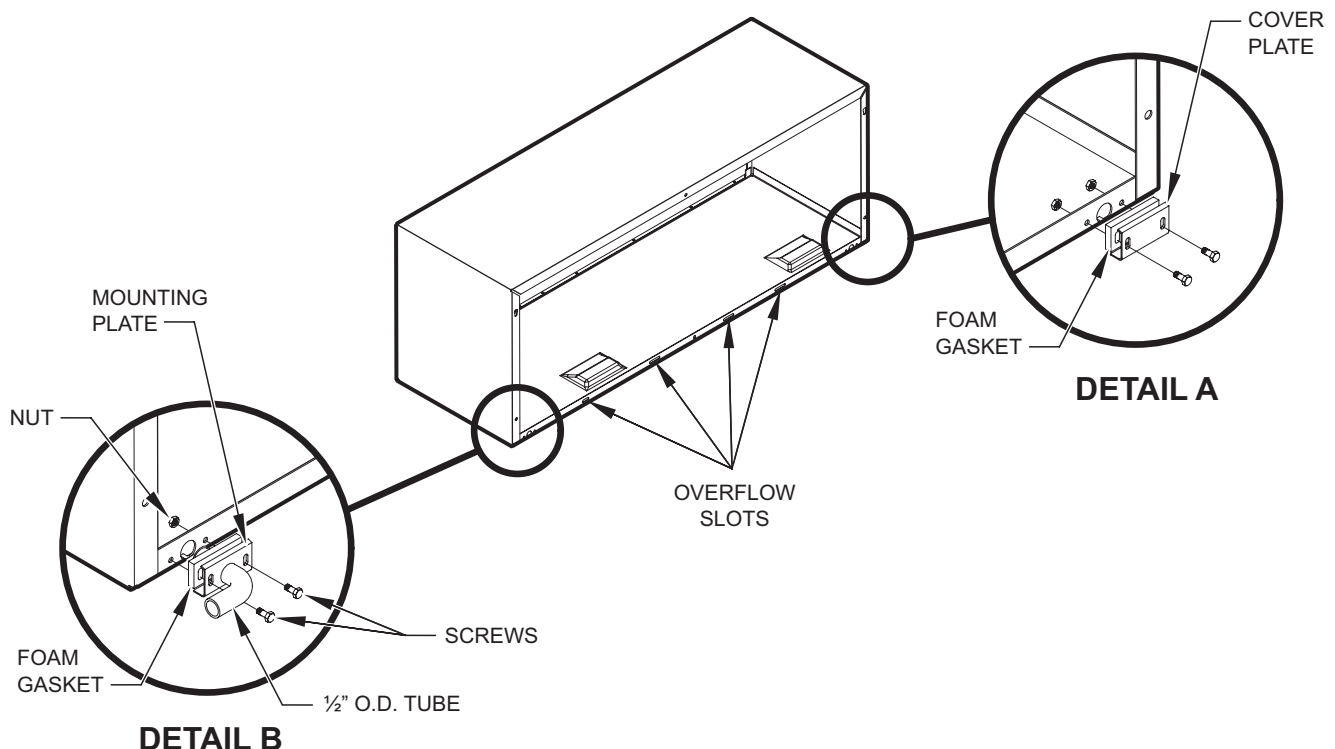

Figure C.4.2 (External Drain Kit Installation)
3. Remove the backing from the gasket and mount it on the flat side of the mounting plate. (See Figure C.4.2). Insert the drain tube through the hole in the gasket and mounting plate
6. Referring to C.4.2 locate and assemble the (2) two cover plates and gaskets over the drain holes at the rear of the wall sleeve. Attach them with the #10 sheet metal screws provided. Make certain that the four overflow slots at the rear of the wall sleeve are not blocked (See drawing of the back of the sleeve Figure C.4.2).
If the wall sleeve has not been installed, the drain tube must be rotated to a horizontal position until after the sleeve is installed. Tighten the mounting plate screws when the tube is in the proper position. Make certain that the four overflow slots at the rear of the wall sleeve are not blocked (See Figure C.4.2).
2. From inside the building, position the wall sleeve in the opening and push it into the wall until it protrudes at least 1/4" on the outside. Do not allow sleeve to be pulled. (See Figure C.4.2).